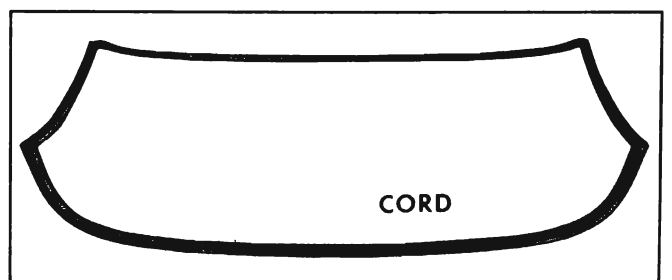

Figure 13-6—Windshield Installation
4. Insert a strong cord in pinchweld cavity of rubber channel completely around windshield. Tie ends of cord and tape to inside surface of glass at bottom center of glass. See Figure 13-6.